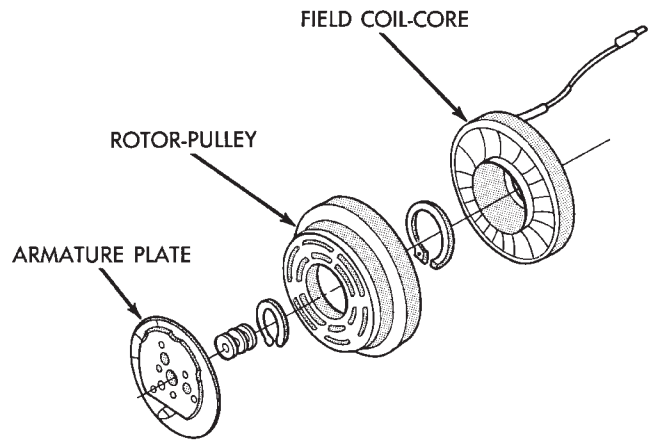

Fig. 21 Clutch Plate/Pulley/Field Coil
(3) Lightly tap clutch plate with a plastic hammer and remove plate and shim(s) (Fig. 21).
(4) Remove pulley retaining snap ring with snap ring pliers. Remove pulley assembly from compressor. Use a plastic hammer, if necessary.
(5) Loosen the lead wire retaining clamps and remove lead wire from the compressor front end cover. Disconnect the lead wire from the thermal limiter switch.
(6) Remove snap ring which secures field coil-core assembly to the front cover (Fig. 21). Note the alignment of field coil-core assembly when removing.